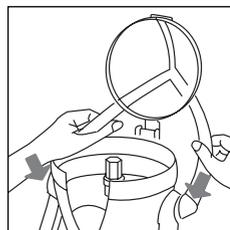

fig. 1
1. Insert the two ends of the juicing lever into the guides (fig. 1).